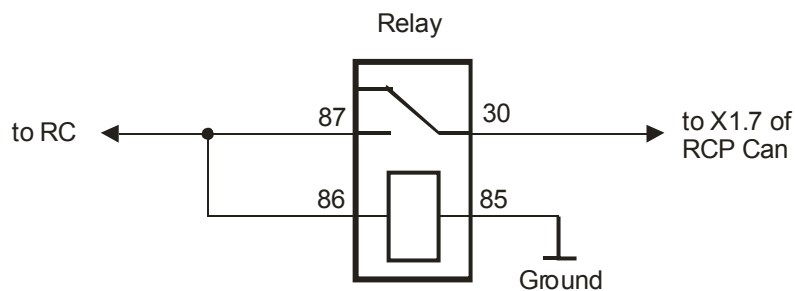

Figure 7
- The input RC_in is intended for the connection of specialized remote controls such as DEFA Smart Start, Hydronic Easy Start, Webasto Telestart. If a problem exists with direct connection of the remote control output line to the input RC_in, it is recommended to make a connection by the scheme at the fig.7.